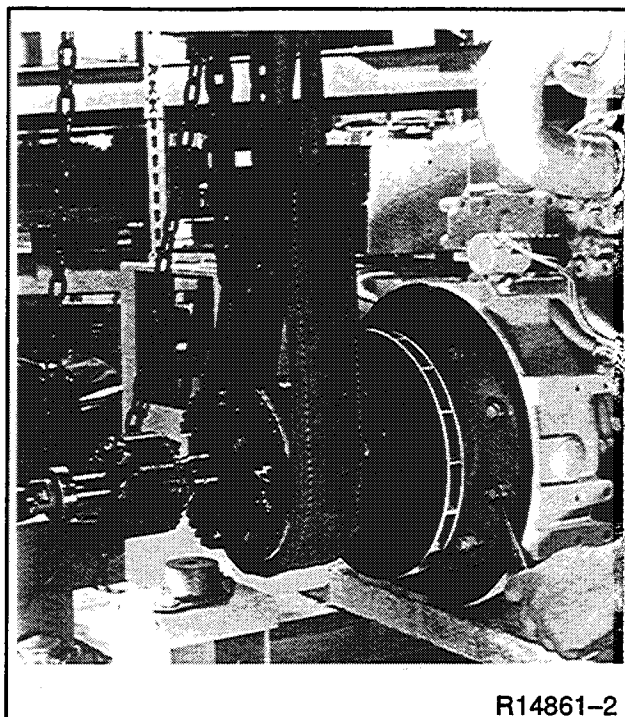

Figure 9-17. Removing Rotor
17. Support rotor assembly using a hoist with sling on rotor or place wood block(s) underneath rotor. **6ROZ/RFOZ and 10ROZ/RFOZ Models:** Remove eight screws and spacers attaching rotor/flex discs to flywheel. See Figure 9-17. **15ROZ/RFOZ Models:** Remove eight nuts and spacers attaching rotor/flex discs to flywheel.